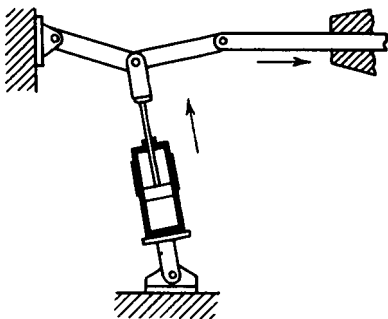

Fig. 10 A toggle can be actuated by the cylinder.
**Fig. 10** A rotating cylinder block is mounted concentrically in a housing. Connecting-rod ends slide around an eccentric guide as the cylinders rotate and cause the pistons to reciprocate. The housing is divided into suction and compression compartments.